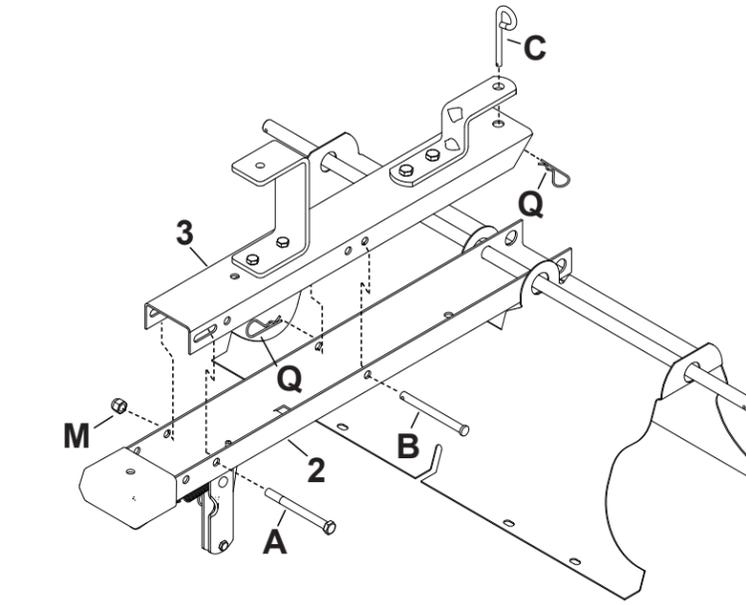

Figure 6
STEP 6 (SEE FIGURE 6): Position front tongue (3) inside the rear tongue (2), and loosely install one 3/8-16 x 4" bolt (A) and 3/8" nylock nut (M). Tighten nut enough to allow the tongues to pivot freely.
STEP 7 (SEE FIGURE 6): Install a 3/8" x 3-3/4" clevis pin (B) through the tongues and secure with a 3/32" x 2-5/16" hair cotter pin (Q).
STEP 8 (SEE FIGURE 6): Install the 3" hitch pin (C) through the hitch bracket (T) and the front tongue (3). Secure with a 3/32" x 2-5/16" hair cotter pin (Q).